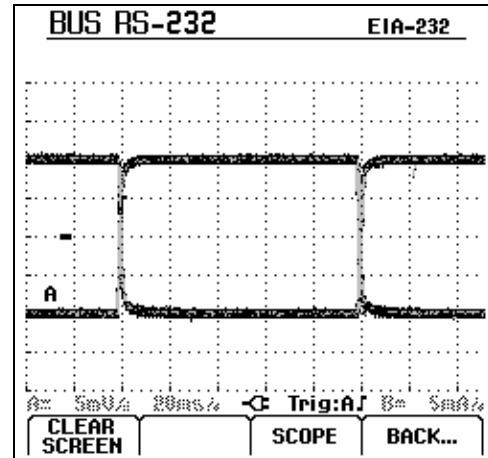

Figure 4-4. Eye Pattern Screen
①   In the main screen select eye pattern mode. You will see a screen like figure 4-4.